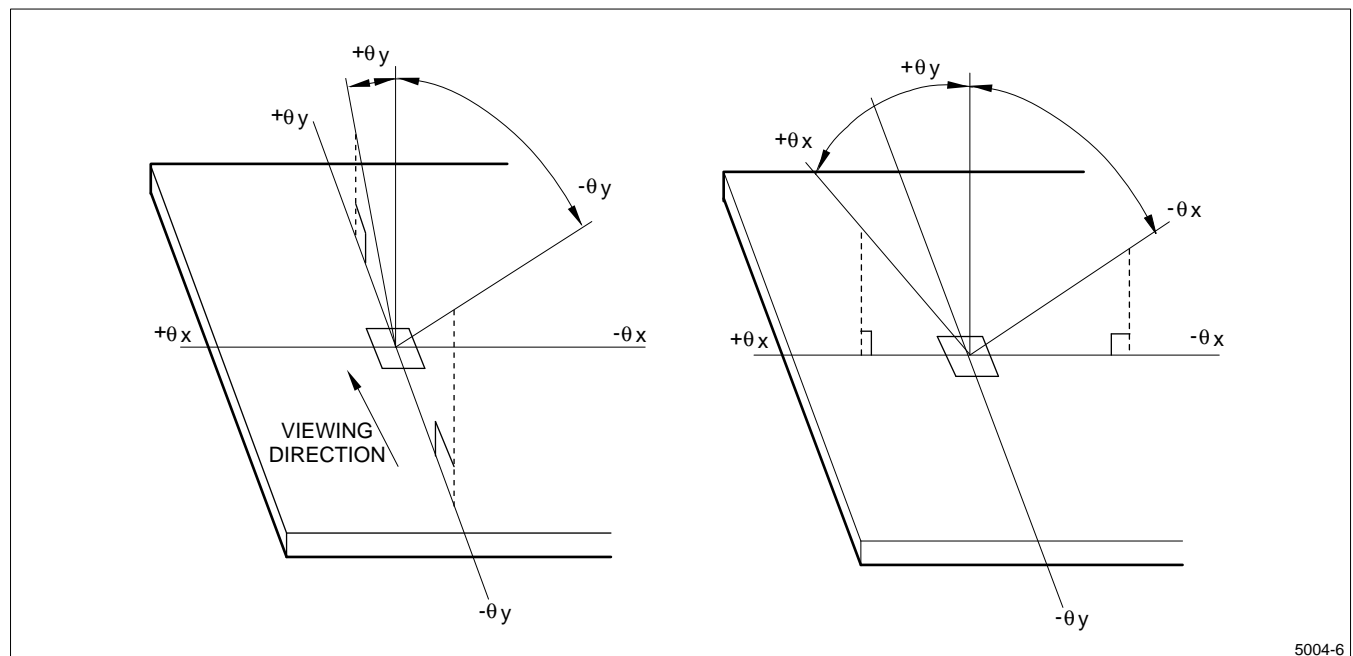

Figure 7. Definition of Viewing Angle
1. The viewing angle is defined as shown in Figure 7.